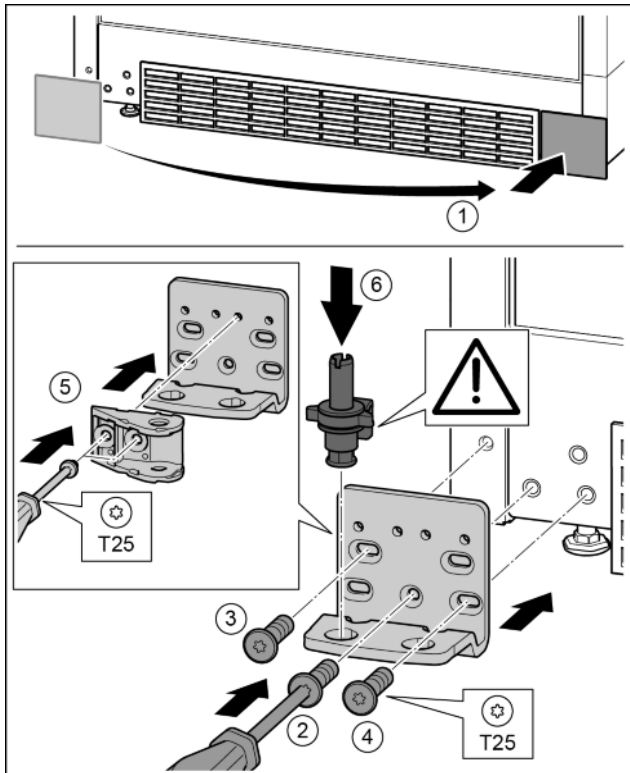

Fig. 30
- ▶ Remove the cover and fix it on the other side. *Fig. 30 (1)*
- ▶ Place the bearing bracket on the other side and screw in with the aid of a T25 screwdriver. Start with screw 2 at the bottom in the middle. *Fig. 30 (2)*
- ▶ Screw in screws 3 and 4. *Fig. 30 (3, 4)*
- ▶ Rotate the soft stop connection 180°. Screw in with a T25 screwdriver on the other side of the bearing bracket. *Fig. 30 (5)*
- ▶ Insert the bearing pin completely. Make sure that the catch mechanism is pointing to the rear. *Fig. 30 (6)*